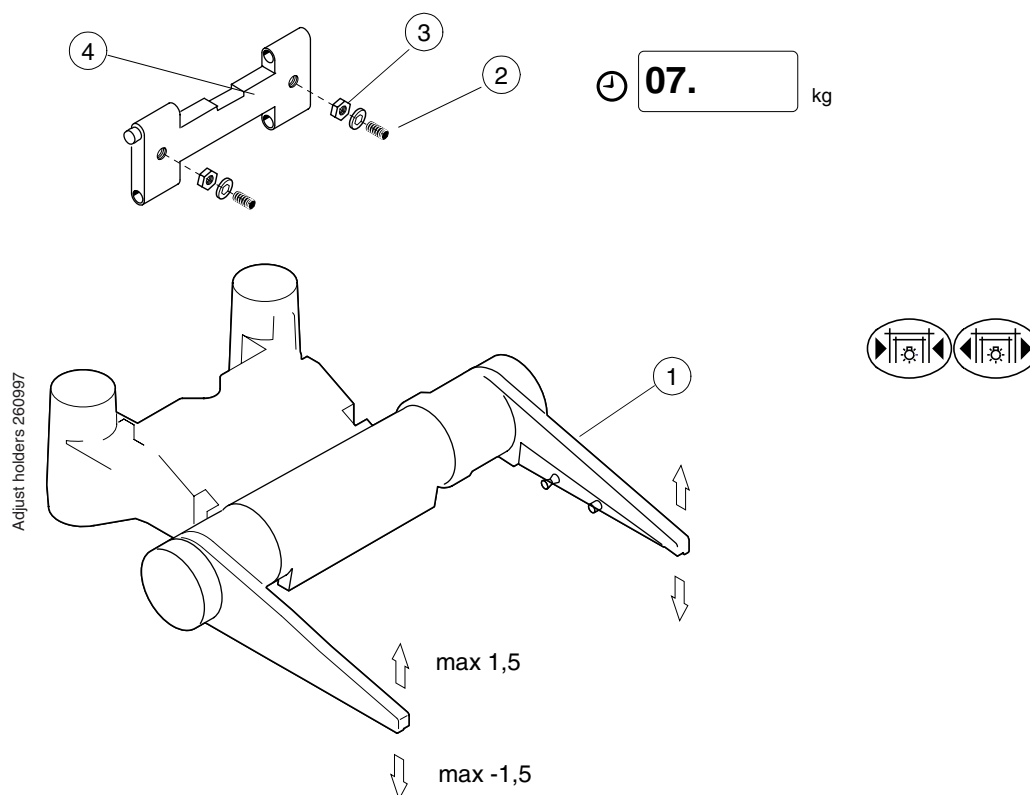

Figure F.25
- h) The backlash in the paddle holders' (Fig. F.25, 1) normal position is removed by adjusting the screws (Fig. F.25, 2) in the tilting lever assembly (Fig. F.25, 4) so that their ends pass through the assembly about the length of the gap. When the adjustment is done in the both sides, secure the screws (Fig. F.25, 2) with the nuts (Fig. F.25, 3).